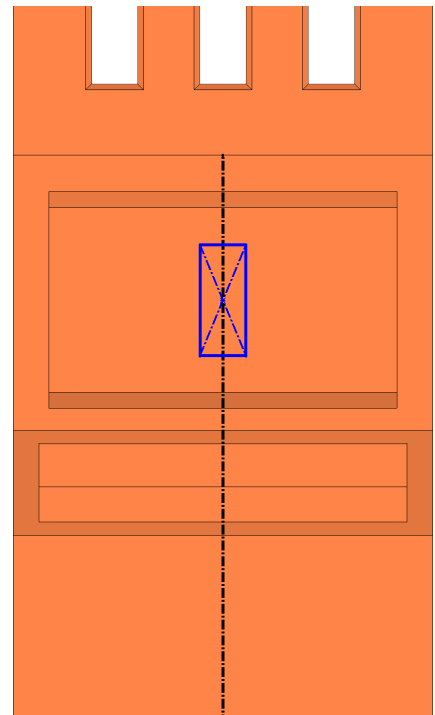

Fig. 41
Step 6. Sketch **center rectangle on centerline at sunroof**, **Fig. 41**.